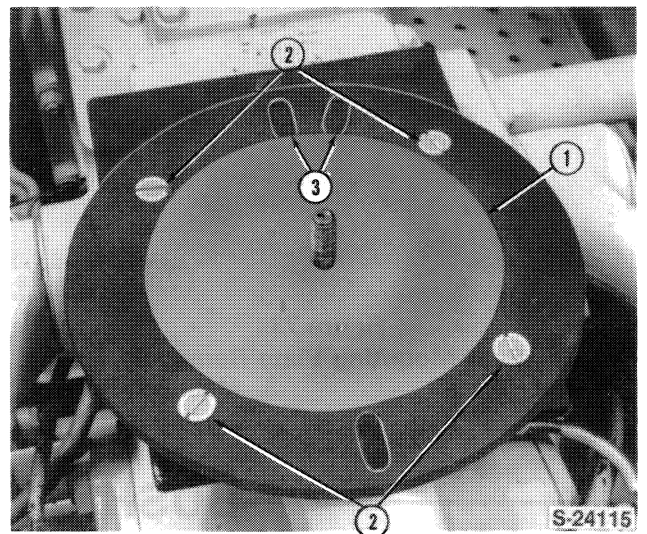

Figure 72
6. Remove the friction disc from the center stud bolt, Figure 72.
7. Remove the four nuts, bolts and spacers securing the round position plate to the tractor mounting plate, Figure 72.